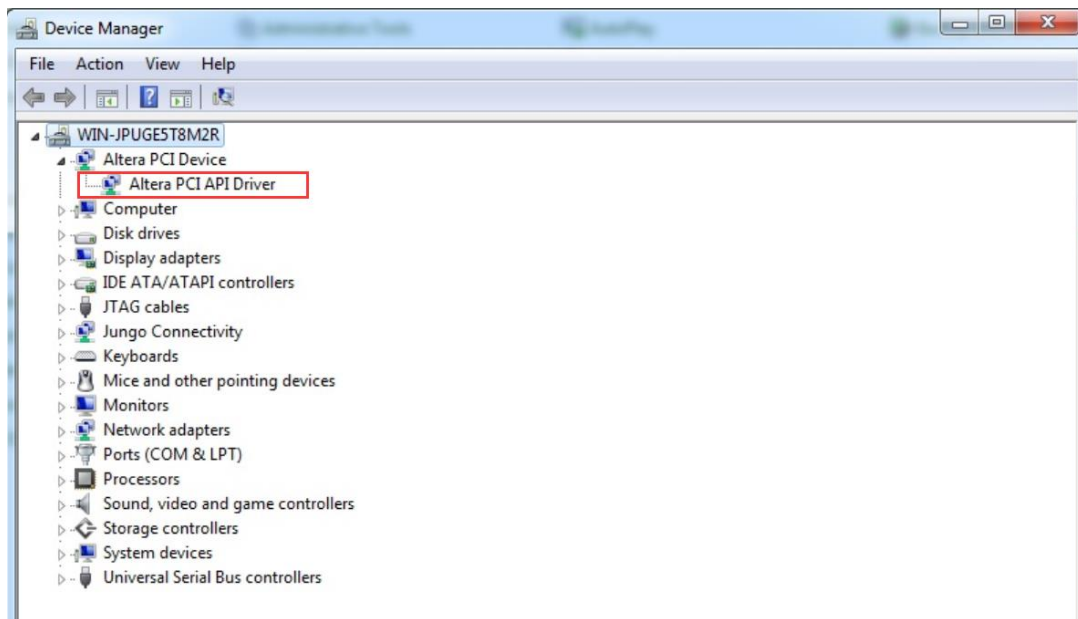

Figure 0-10 Screenshot for PCIe Driver
6. Make sure the Windows has detected the FPGA board by checking the Windows Control panel as shown in **Figure 0-10**.